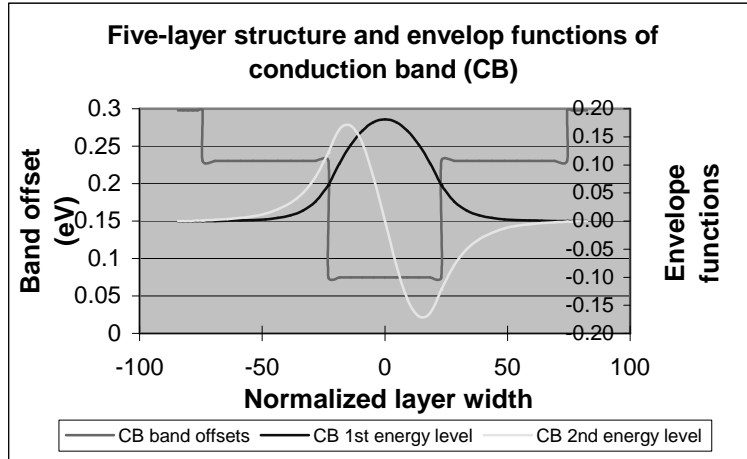
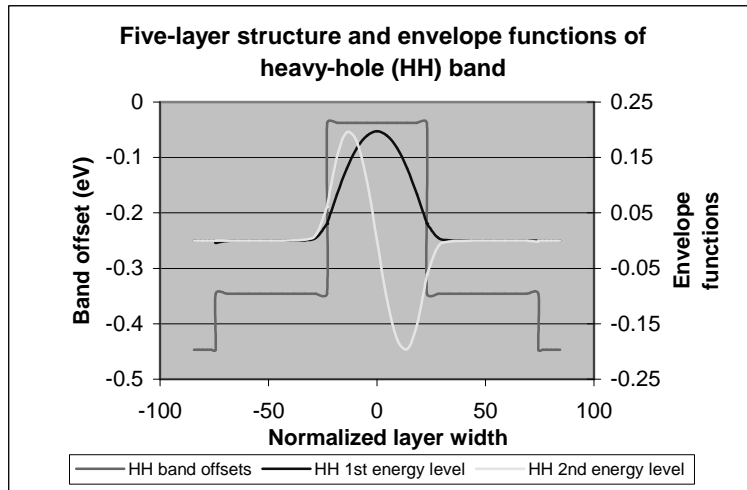
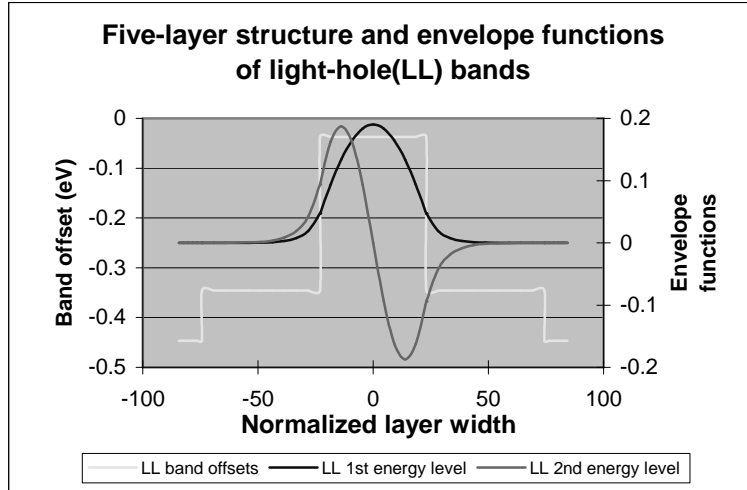

Fig. C.13.2. Wave envelope functions for energy levels in conduction band
Fig. C.13.3. Wave envelope functions for heavy hole energy levels
Fig. C.13.4. Wave envelope functions for light hole energy levels
b) The main output file from this part of GAIN program is energy.dat, containing all the energy levels as shown in Table C.13.5. After the energy eigen values are calculated, the GAIN program asks the user whether he would like to check the wave envelope function or not. We suggest that the user check the wave envelope functions of the first and second energy levels for conduction, heavy-hole and light hole bands. The plots of the envelope functions are shown in Fig. C.13.2, Fig. C.13.3, Fig C.13.4.